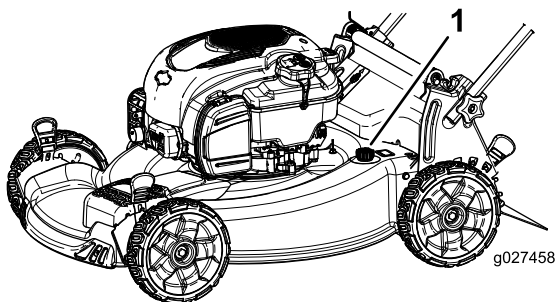

Figure 32
5. Attach a garden hose that is connected to a water supply to the washout port (Figure 32).